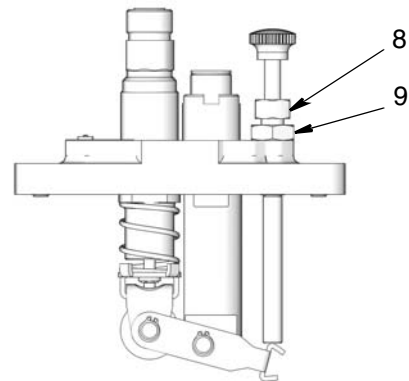

FIG. 9
Pump volume is controlled by an external adjusting screw (8) (FIG. 9). Turning the adjusting screw changes the length of the piston stroke which changes the pump discharge volume.
1. Loosen the adjusting screw locknut (9) (FIG. 9).
2. Turn the adjusting screw (8) (FIG. 9):
3. ***For Suction Fed and Gravity Fed models only:*** With the lubricator operating, count the drops from the drip tube (4) falling into the sight well (2) for one minute.
5. Once the pump is adjusted to the proper specification, tighten the adjusting screw locknut (9) (FIG. 9).
The number of drops observed falling in the sight well equals the amount of oil discharged by the pump. The pump volume can be adjusted using the adjusting screw (8) (FIG. 9) to change the piston stroke. (See Adjusting the Pump.)